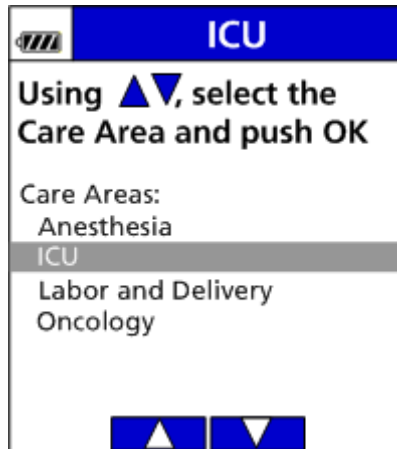

Figure 30. Select Care Area.
- Use the arrow keys to select the Care Area (nursing area) and press OK. (See Figure 30.)